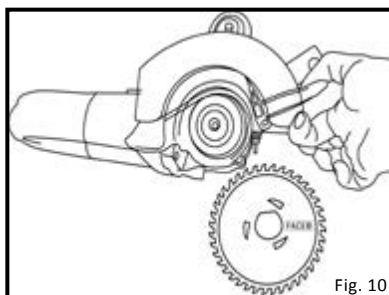

Fig. 10
2. Open lower guard and place "Face 2" blade on saw and fit on the outer arbor shaft. (Fig. 10)